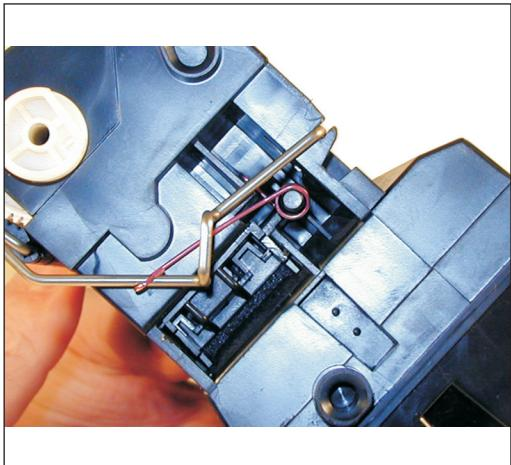

Figure 11
6) Release and remove the spring on the drum cover bar. The spring has been colorized for easy identification. See Figure 11